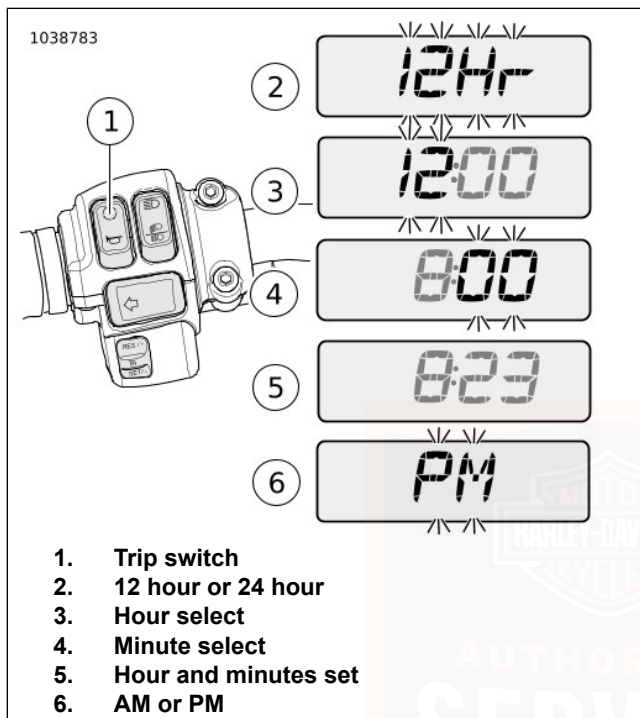

Figure 33. Time Displays
2. See Figure 33. Press and release the trip switch (1) until time (hour and minutes) is displayed. Press and hold the trip switch until 12Hr (2) begins to blink in the display window. Release the switch.
4. When the desired time style is displayed, press and hold the trip switch until the hours display (3) is blinking.
6. When the correct hour is displayed, press and hold the trip switch until the minutes display (4) starts blinking.
8. When the correct minutes are displayed (5), press and hold the trip switch until the display advances to the selection of AM or PM (6).